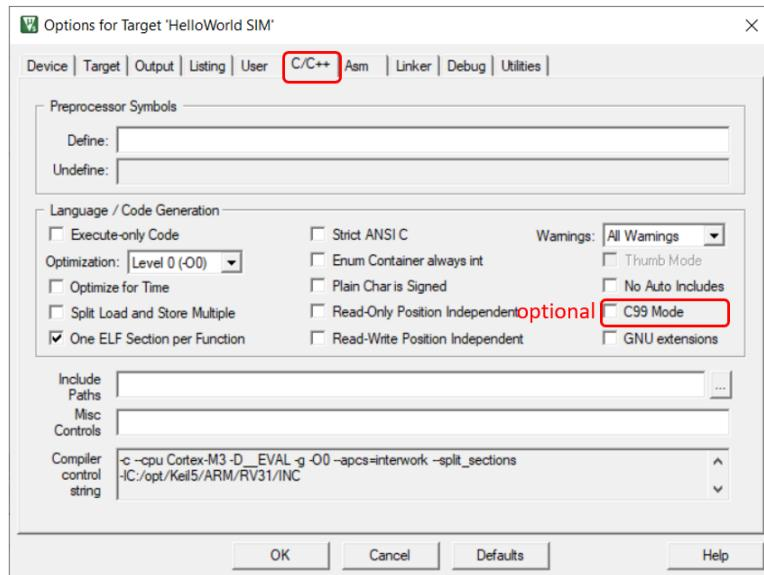

Figure 9.12: Keil IDE: Target Options C/C++ Tab Configuration
2. Configure the C/C++ tab as shown in Figure 9.12. We do not need c99 for this example. So we leave it unchecked. If you click OK to finish the Target option setting now, you will find the red cross at line 2 (See Figure 9.10) is now gone. Now re-open the target options configuration window and proceed to the next step.